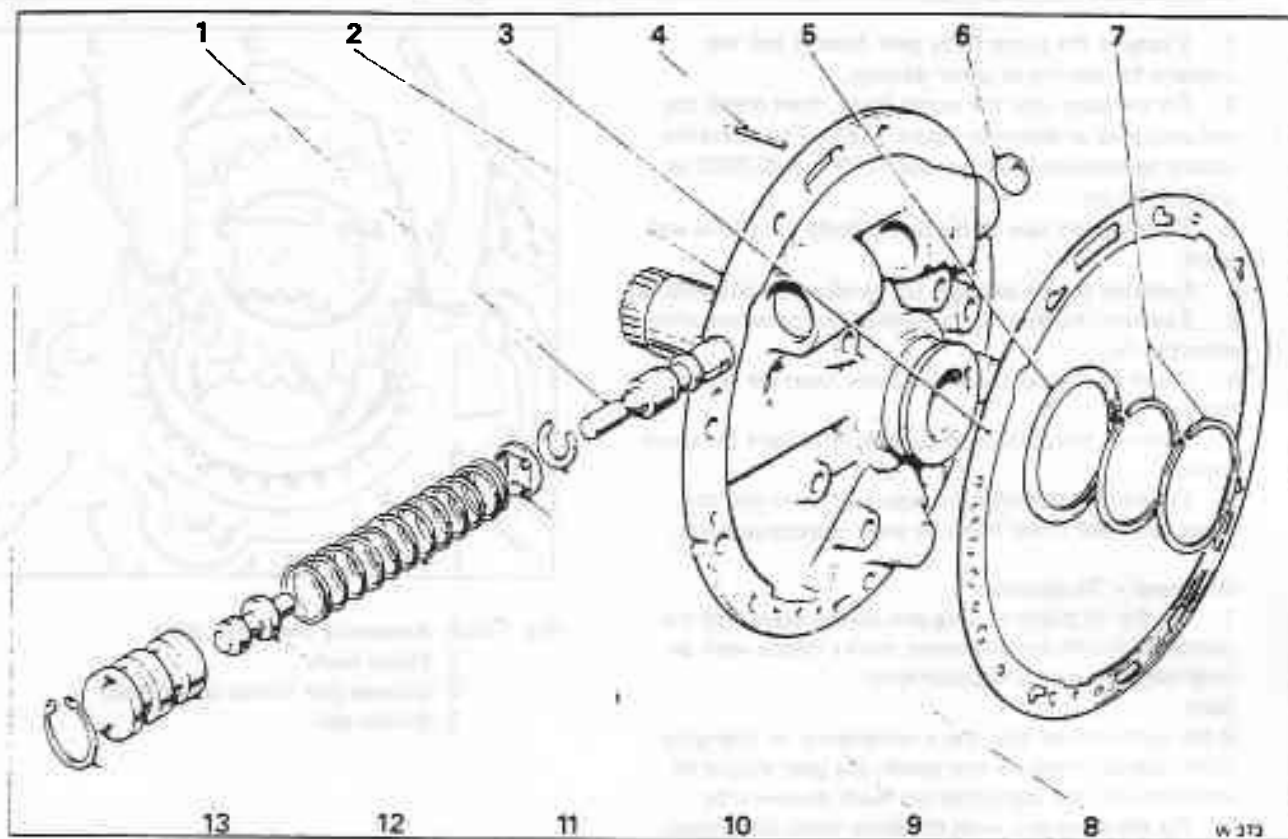

Fig. T16-6 Pump cover
2. Fit the pressure regulator spring retainer, spacer, or spacers (if fitted) and spring into the pressure regulator bore (see fig. T16-6).